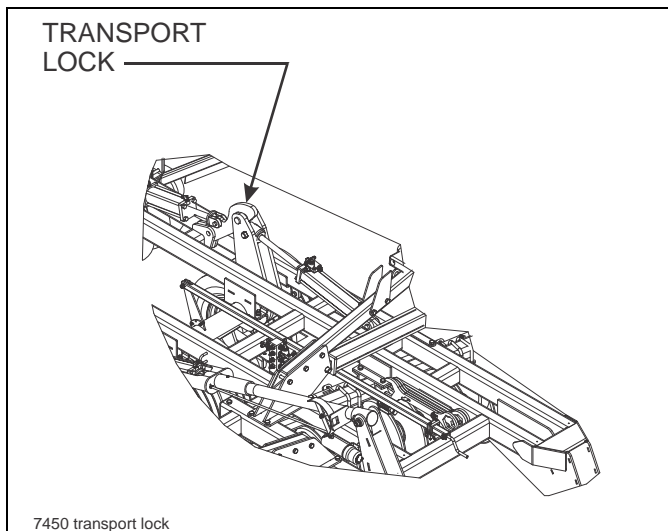

Figure 4-20: Installed Transport Locks
4. Transport locks are provided to hold the implement in a raised position. Do not attempt to perform any service work under the implement without first installing the transport locks (**See Figure 4-20.**) This will require activating the fold circuit to engage the transport locks. Before servicing any hydraulic component, lower the implement to the ground and relieve all system pressure. If a hydraulic component is disconnected, repaired, or replaced, it will be necessary to purge the system of air before operation. **See “Hydraulic Lift System” on page 4-3 and “Hydraulic Fold System” on page 4-5** on how to purge the hydraulic systems.